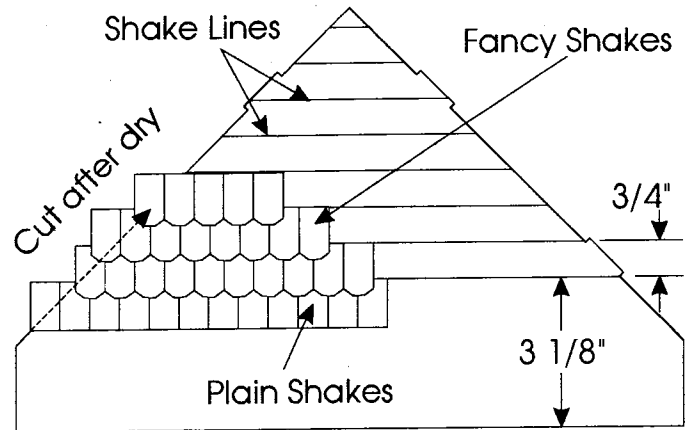

Figure 18
2. From the bottom edge of one gable, measure up $3 \frac{1}{8}$ " and draw a straight line parallel to the bottom edge of the gable. From this line draw lines every $\frac{3}{4}$ " all the way to the top. These are shake lines. Fig. 18.